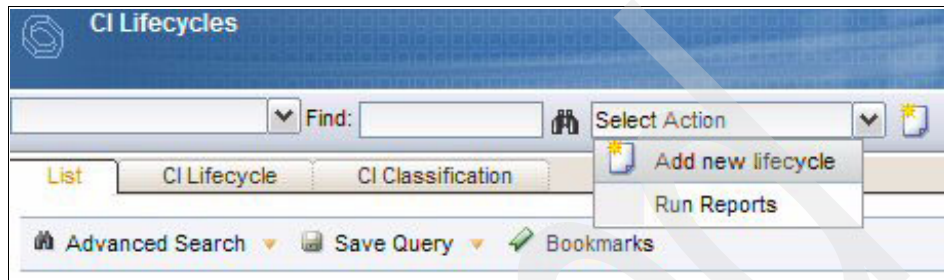

Figure 8-83 Add new CI Lifecycle
2. You can choose to either **Add a new Lifecycle** from the Select Action menu or you can click the **Add a new Lifecycle** icon to the right of the Select Action drop-down menu (Figure 8-83). Selecting **Add a new Lifecycle** opens the Lifecycle tab. An ID designation for the new life cycle is automatically generated and cannot be altered.